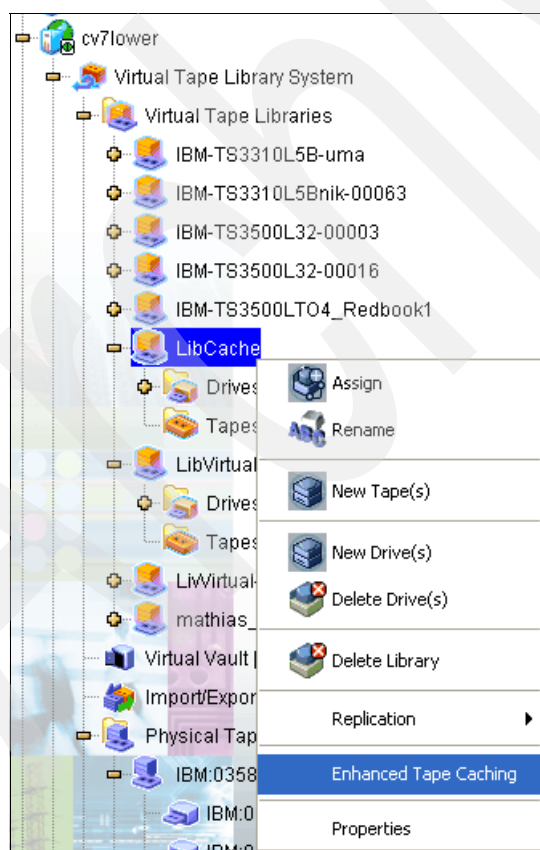

Figure 12-39 Select Enhanced Tape Caching
1. Right-click a virtual tape library and click **Enhanced Tape Caching**, as shown in Figure 12-39.